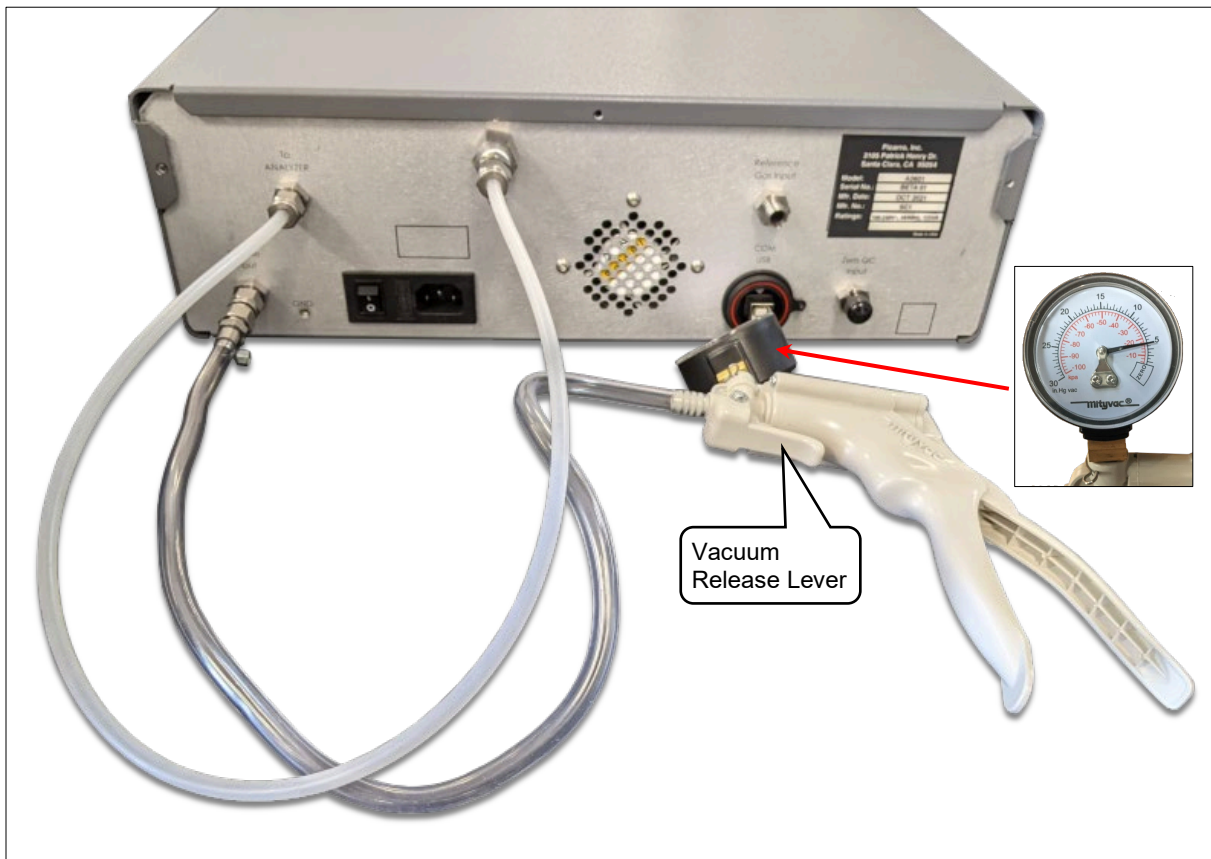

Figure 61: Post-service Leak Check Setup
2. Connect the hand pump to the ZRM **Sample Input** port as shown in Figure 61.